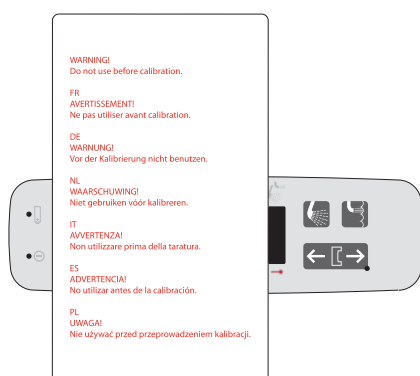

Fig. 15
1. Remove the calibration label fastened on the control panel. See Fig. 15.